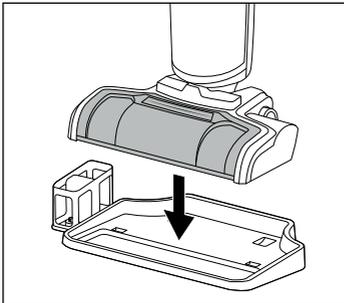

Fig. 45
- ◆ For storage, place the appliance on the storage tray **4** of the parking and cleaning station (see fig. 45).